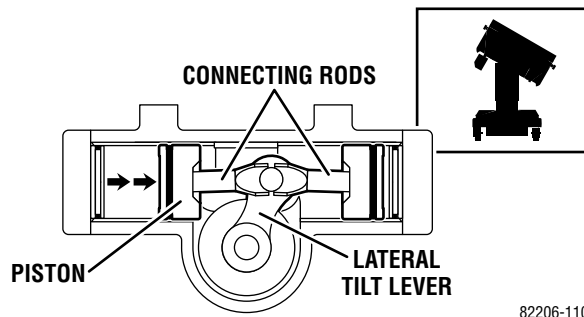

Figure 1-10. Lateral Tilt Cylinder Assembly
3. Lateral Tilt Assembly - The lateral tilt assembly consists of two cylinders, pistons and connecting rods. The connecting rods attach to the lateral tilt lever which connects to the table center column assembly. The cylinder housing attaches to the table top and is attached to the center column assembly by pivots. See figure 1-10.